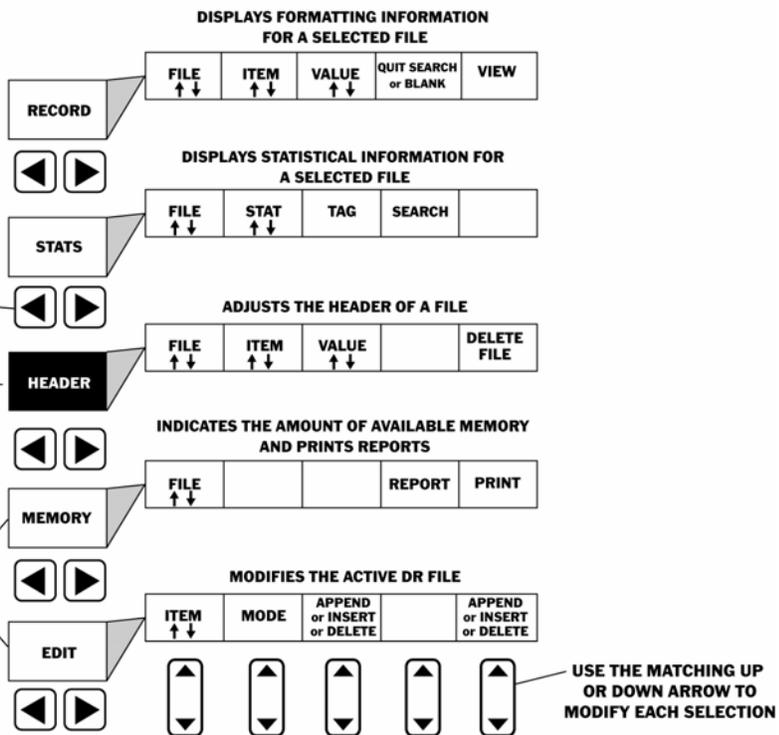

FIGURE 5-2—The Data Recorder Primary Menu contains five sub-menus. Each sub-menu contains several selections.
The DR Primary Menu contains five sub-menus. Figure 5-2 shows the contents of these submenus and how to select them. As you work in the Data Recorder Mode, keep in mind that the DR display screen appearance sometimes varies, depending on the type of active data file and the selected submenu. Refer to the submenu and individual selections shown in Figure 5-2 for a better understanding of each selection's function. Then review this chapter to better understand the specifics of how each selection works.
Test or TG Mode by pushing  two times. Once the DR Menu (Figure 5-2) is opened, you'll note five submenus listed on the Submenu Bar and three to five selections listed across the bottom of the display.
Step 1: Open the Data Recorder Menu by pushing . Once the DR Menu is opened (Figure 5-2), you'll note five submenus listed on the Submenu Bar and between three and five selections listed across the bottom of the display.
Step 1: Open the Data Recorder Menu by pushing  (Figure 5-2). You'll note five submenus listed on the Submenu Bar.
Step 1: Open the Data Recorder Menu by pushing  (Figure 5-2). Be certain that the desired data file is active. (See Section 5.1.1 to open a data file)